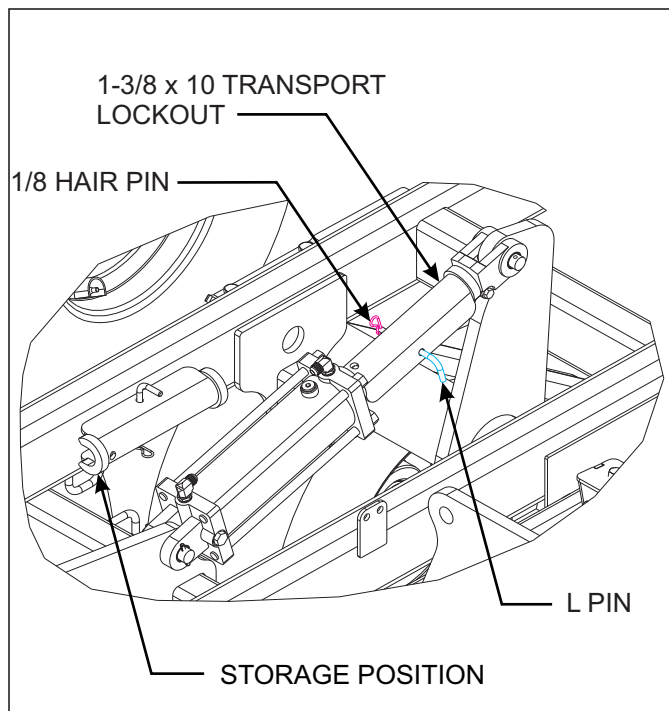

Figure 4-7: Transport Locks
14. Install transport locks and pins on both lift and fold systems. Do not depend solely on implement hydraulics for transport *See Figure 4-7.*